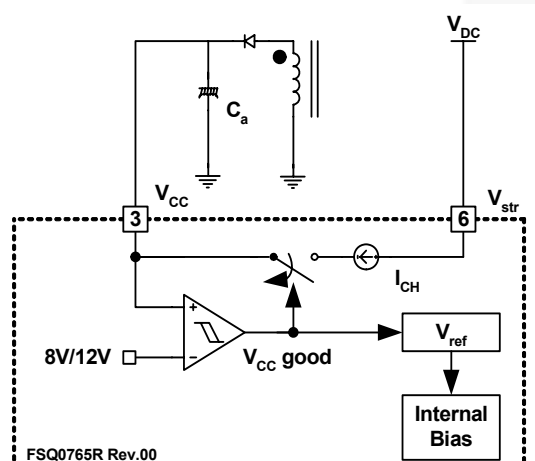

Figure 31. Startup Circuit
4.3 Output-Short Protection (OSP): If the output is shorted, steep current with extremely high di/dt can flow through the SenseFET during the LEB time. Such a steep current brings high voltage stress on drain of SenseFET when turned off. To protect the device from such an abnormal condition, OSP is included in the FSQ-series. It is comprised of detecting V_{FB} and SenseFET turn-on time. When the V_{FB} is higher than 2V and the SenseFET turn-on time is lower than 1.2μs, the FPS recognizes this condition as an abnormal error and shuts down PWM switching until V_{CC} reaches V_{start} again. An abnormal condition output short is shown in Figure 31.